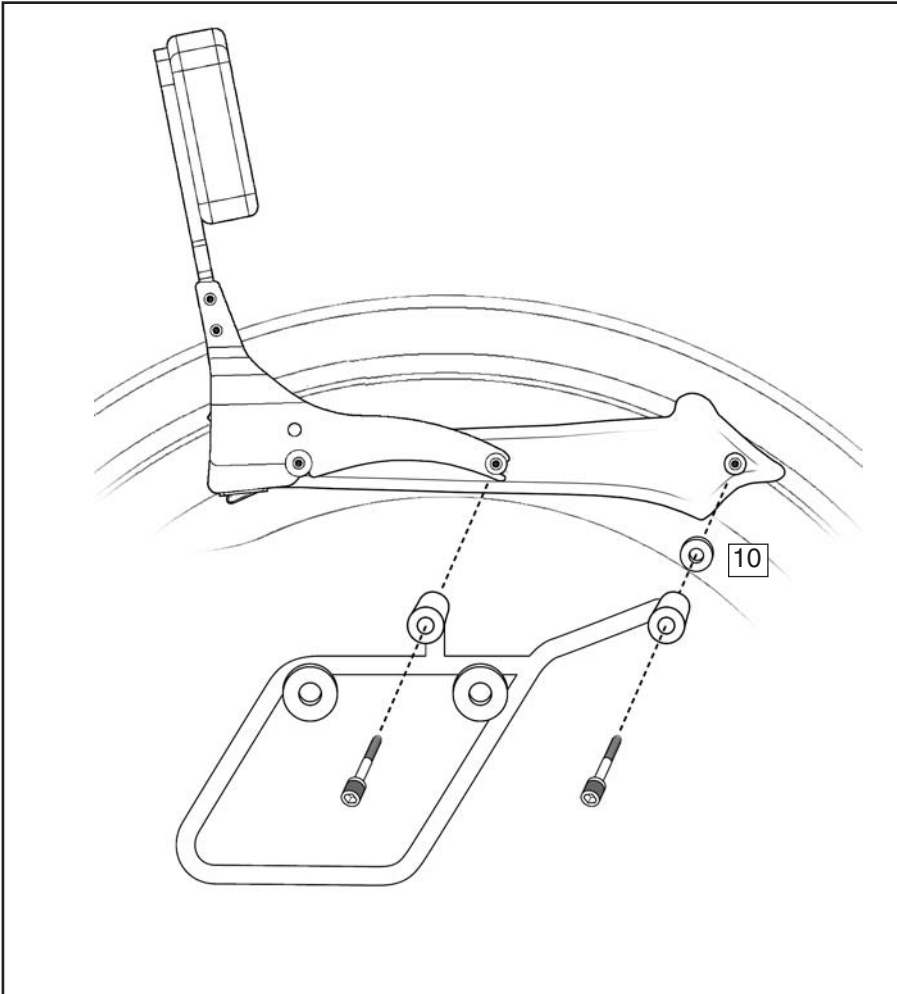

Figure 5
4. Install the frame bracket at the rear mount point using a M10-1.25 x 75 screws from bag 615 of the Cruisliner Kit. **(6mm Hex Key) Figure 5**